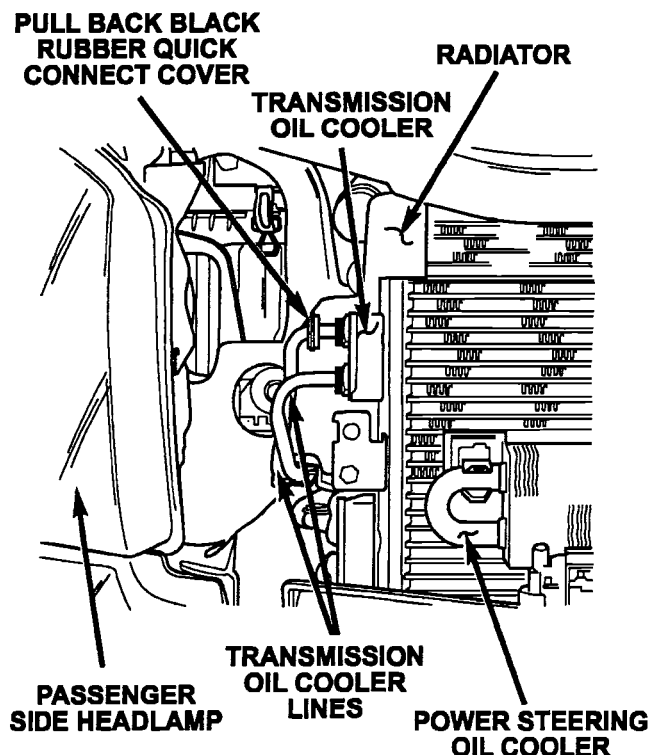

Figure 14
4. Pull back the black rubber quick connect cover on the upper cooler line, and using Special Tool 8875A, disconnect the upper transmission oil cooler line at the transmission oil cooler (Figure 14).